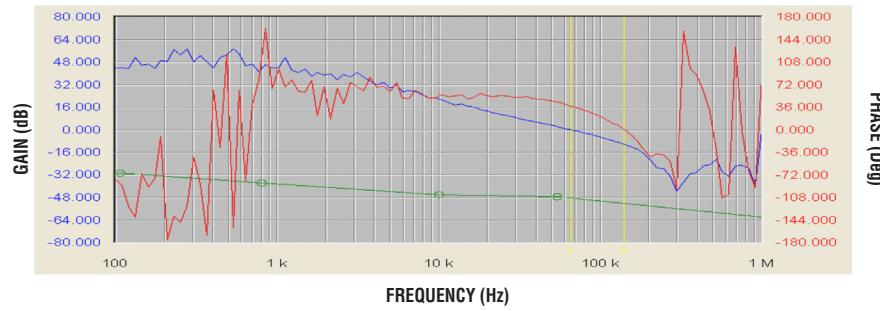

**Figure 31. Typical 4.5VIN to 18VIN, 1.5V and 1.2V at  $\pm 25$ A Outputs**
**Table 6. Output Voltage Response vs Component Matrix (Refer to Figure 31) Load Step Typical Measured Values (2-Phase Single Output Solution)**